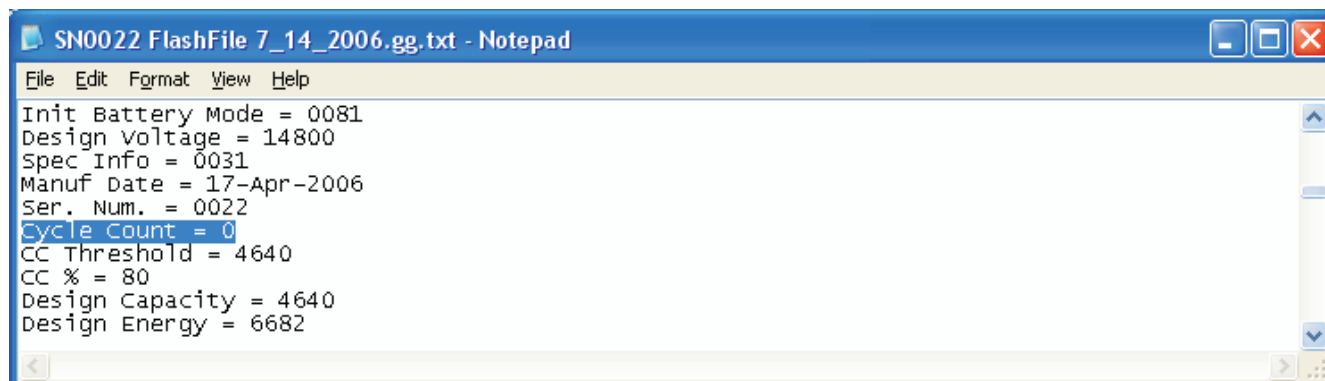

Figure 3. Cycle Count Modification in GG File Using Notepad
5. Also Reset the *Cycle Count* field to 0 as shown in Figure 3.